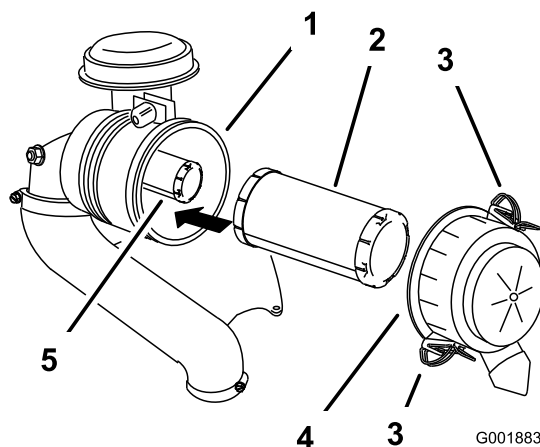

Figure 51
3. Release the latches on the air cleaner and pull the air-cleaner cover off the air-cleaner body (Figure 51).
5. Gently slide the primary filter out of the air-cleaner body (Figure 51).
2. If you are replacing the inner filter, carefully slide it into the filter body (Figure 51).
3. Carefully slide the primary filter over the safety filter (Figure 51).
4. Install the air-cleaner cover and secure the latches (Figure 51).